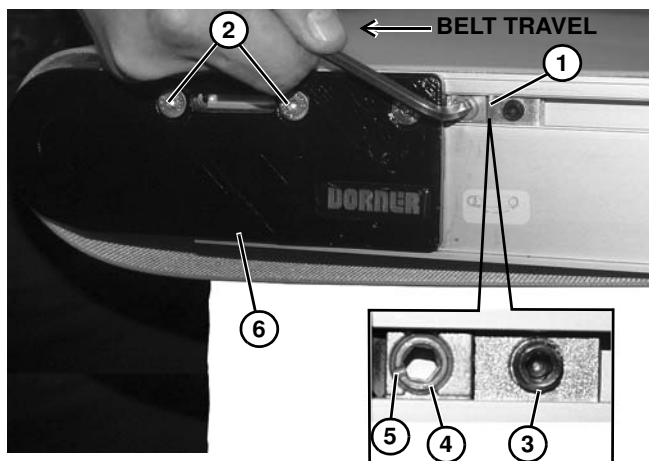

Figure 61
Non V-guided belt conveyors are equipped with belt tracking cam assemblies (**Figure 61, item 1**) for belt tracking adjustment.
- Ensure head plate fastening screws (**Figure 61, item 2**) on both sides of conveyor are tightened.
- On both sides of conveyor, loosen cam fastening screw (**Figure 61, item 3**). Adjust cams (**Figure 61, item 4**) until indicator slots (**Figure 61, item 5**) are horizontal and facing end of conveyor. Then slide cam assemblies against head plates (**Figure 61, item 6**) and re-tighten cam fastening screws (**Figure 61, item 3**) to 60 in-lb (7 Nm).
- On the side toward which the belt is tracking, loosen head plate fastening screws (**Figure 61, item 2**).
- With the conveyor running, use a 5 mm hex-key wrench to rotate the tracking cam (**Figure 61, item 4**) in small increments until the belt tracks in the center of the conveyor. Then while holding the cam in position, re-tighten the head plate fastening screws (**Figure 61, item 2**) with a 4 mm hex-key wrench to 60 in-lb (7 Nm).